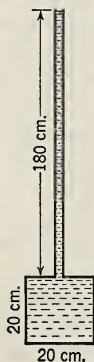

FIG. 43. Total force.
9. A cubical box is 20 cm. on a side. To the top of the box a tube 1 sq. cm. in cross-sectional area and 180 cm. long is attached. Both are filled with water. Calculate the total force upon the bottom of the box, upon each side, and the upward force on the top of the box. (See Fig. 43.)